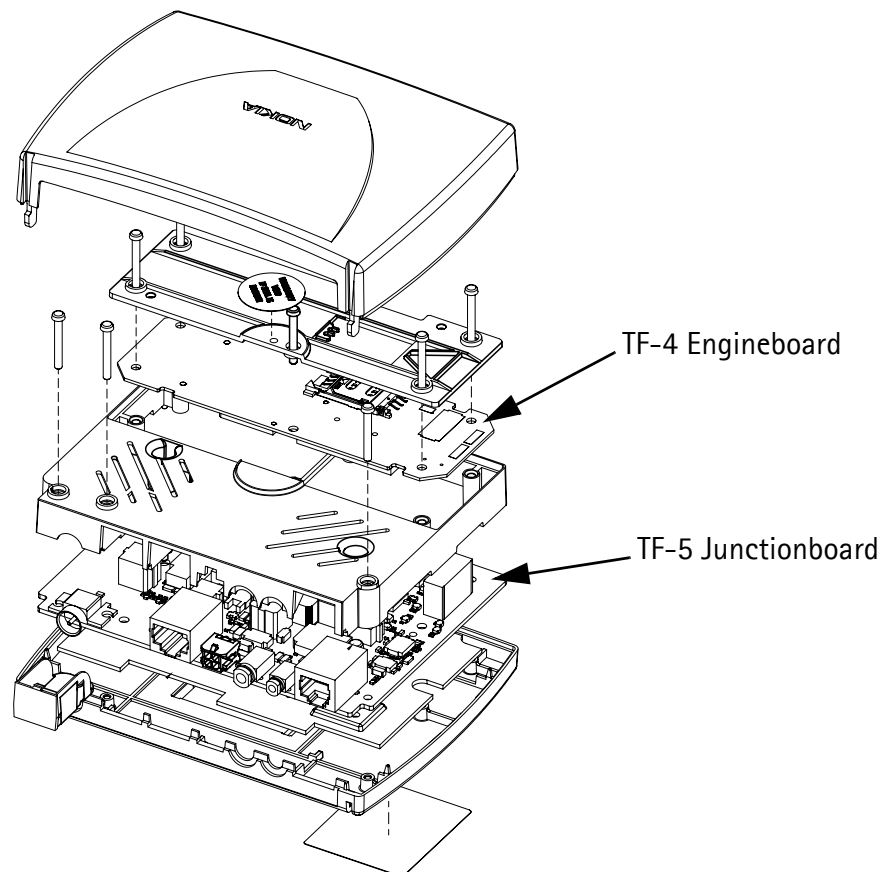

Figure 1: View of TFE-4/RV-1 Radio-Unit
The TF-5 PWB, is called the "Junctionboard" (JB) and the TF-4 PWB, is called the "Engine-board" (EB). The TF4 PWB is very similar to the NPL-1 (6310i) phone PWB and contains the phone itself. The TF5 PWB is responsible for interfacing to the Display-Unit, the Input device as well as to the car environment and the accessories. For this purpose there are Through-Hole Connectors mounted on the TF5 PWB. Both PWBs are only single sided populated. The exploded view of mechanical construction can be seen in Figure 1: View of TFE-4/RV-1 RU.